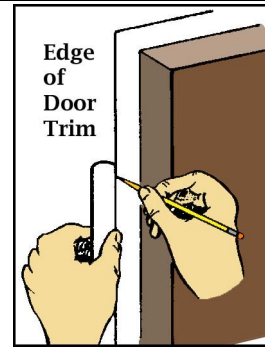

Figure 3
- **Step 5** As shown in Figure 3, using the straight edge of a steel ruler, the trim around a door, or the 12" length of brass angle, draw lines upward from the bottom of the tube for a distance of 1.25" for the fins, and 2.25" for the launch lug.